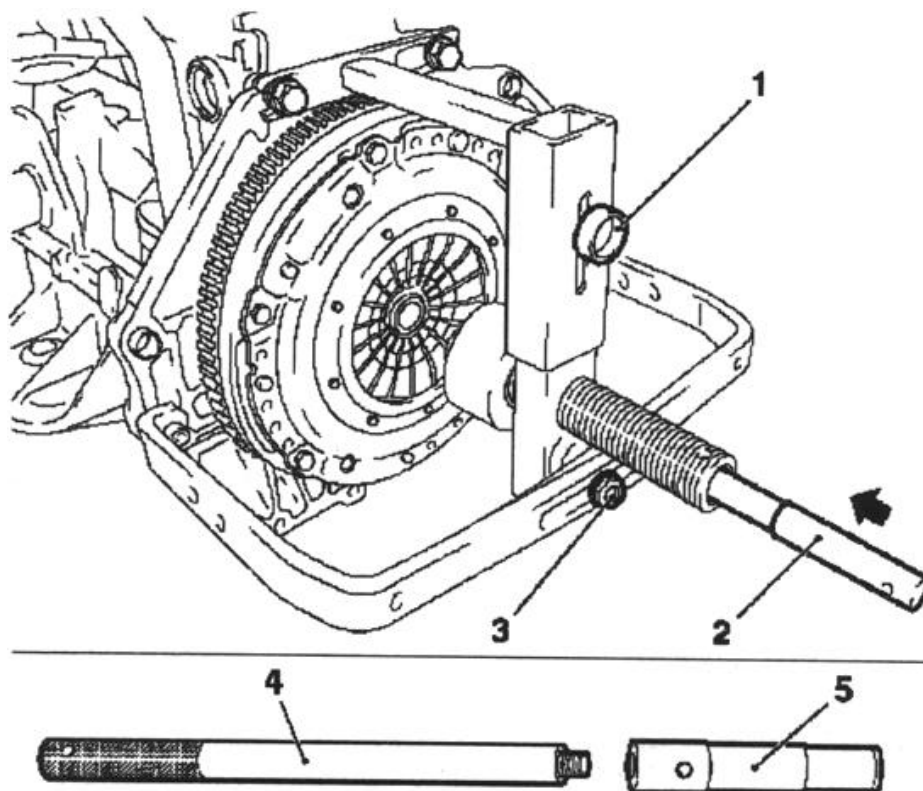

Fig. 3.5. Setting special accessories and alignment mandrel:
Attach a special device KM-6263-30 (4) to the alignment fixture (Figure 3.5).
Tighten the 4 bolts special device KM-6263 to the engine block (Fig. 3.5).